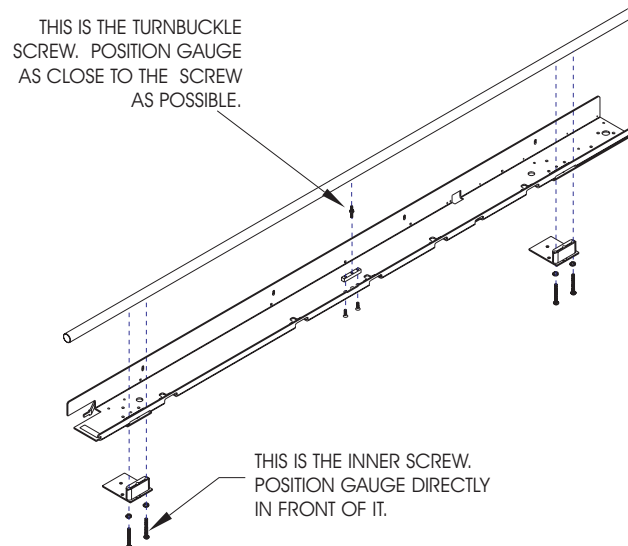

Figure 3-12. Slide Shaft Profile Adjustment.
4. Measure just off the center of the slide shaft and adjust the center turnbuckle with an open ended wrench if required, for the average value (the value found in step 3.) See Figure 3-12.